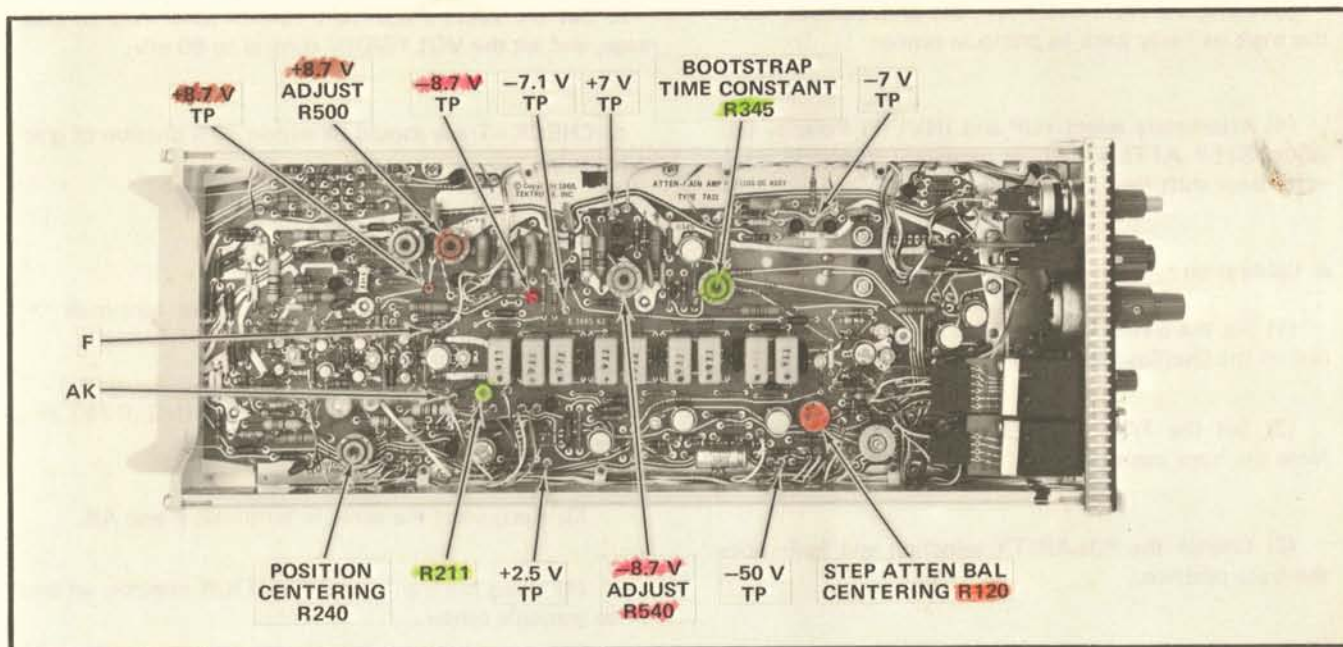

Fig. 5-4. Test point and adjustment locations for steps 1 through 4.
b. CHECK—Voltages. Using the DC Voltmeter (item 3), check the voltages listed in Table 5-3. Test points are shown in Fig. 5-4.
c. ADJUST—+8.7 V ADJUST, R500, and -8.7 V ADJUST, R540, (Fig. 5-4) as necessary to have the applicable power supplies within allowable values. Note that R540 also controls the -7.1 V supply. The +7 V, -7 V, and +2.5 V supplies are not adjustable.
(1) Set the STEP ATTEN BAL to midrange and pull out on the Oscilloscope Beam Finder knob.
(2) Set the 7A11 POSITION control to midrange. Note the trace position.
(3) Change the POLARITY selection and again note the trace position.
(4) ADJUST—STEP ATTEN BAL CENTERING, R120 (Fig. 5-4) as necessary to set the trace halfway between the two observed positions.
(5) Alternately select +UP and INVERT Polarity and adjust ATTEN BAL CENTERING R120 (Fig. 5-4) as necessary to obtain minimum trace shift.
(6) Using the 7A11 POSITION control, set the trace to graticule center.
(7) Return the Beam Finder switch to normal by pushing in and releasing it.
(8) Alternately select +UP and INVERT Polarity and adjust ATTEN BAL CENTERING R120 (Fig. 5-4) as necessary to obtain minimum trace shift.
(9) Select + UP Polarity at the 7A11.
(1) Disconnect the connectors from terminals "F" and "AK" (Fig. 5-4).
(2) ADJUST—POSITION CENTERING R240 (Fig. 5-4) to move trace to graticule center.
(3) Reconnect the wires to terminals F and AK.
(4) Using the front-panel POSITION control, set trace to graticule center.
(5) CHECK—knob index should be within approximately  $10^\circ$  of top-center.
(6) ADJUST—knob to top center (loosen set screw) with trace at graticule center.
(7) CHECK—knob should be approximately centered in its stop-to-stop travel range.
g. (Calibration Procedure only.) ADJUST—R211 and R345 (Fig. 5-4) for optimum square corner and flatness. Rounding, overshoot and tilt should not exceed .05 division peak to peak. Use Fig. 5-5 as a reference. (Observing the display at 5 ms/division may aid in performing the adjustment.)